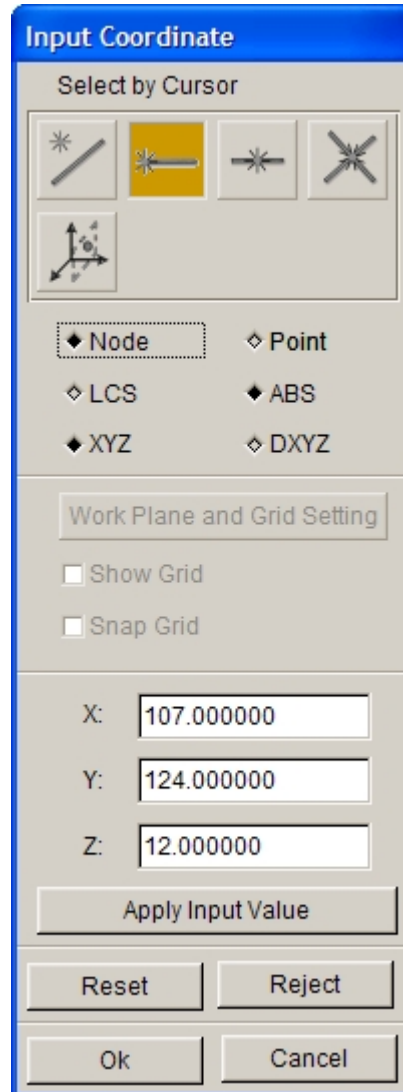

Figure 6.1.58 Selection of Tipping Center using INPUT COORDINATE dialog box
- **USER DEFINE** - The user selects a node, point or center coordinate as the tipping center using the INPUT COORDINATE dialog box as illustrated in Figure 6.1.58.